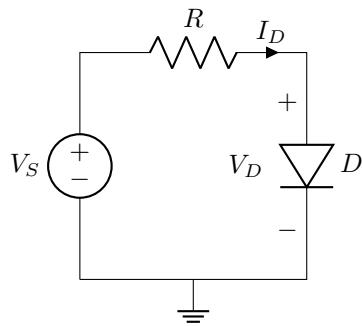

Figure 1: Forward-bias pn junction I-V characteristic measurement circuit.
In this portion of the experiment, you will measure the forward-bias current-voltage characteristics of a silicon diode. Begin by constructing the circuit shown in Figure 1 on your breadboard using the small-signal silicon diode and the 1 kΩ resistor. Ensure that the diode is oriented correctly with the anode connected toward the positive supply terminal and the cathode toward ground. Connect one DMM across the diode terminals to measure the diode voltage V_D directly. To measure the current through the diode I_D , you have two options: either connect the second DMM in series with the circuit (being careful to observe the current measurement limits of your meter), or measure the voltage across the resistor and calculate the current using Ohm's law ($I_D = V_R/R$). The second method is often preferred as it avoids potential issues with meter burden voltage.
2. For the circuit in Figure 1, assume $V_S = 5$ V, $R = 1$ k Ω , and the diode forward voltage is 0.7 V when conducting. Calculate (a) the voltage across the resistor, (b) the current through the diode, and (c)